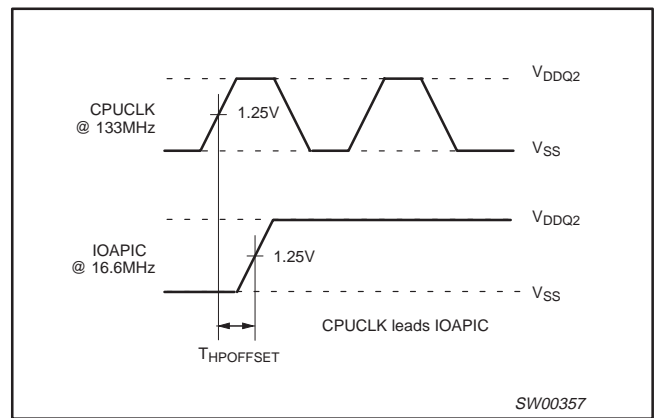

Figure 3. CPU to IOAPIC offset
- See Figure 3 for measure points.
- Output (see Figure 3 for measure points).